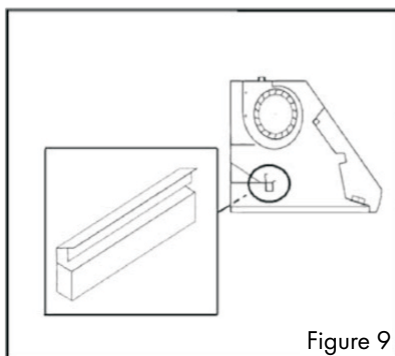

Figure 9
4. Drop the oil tunnel into recess support near rear of hood. See Figure 9.